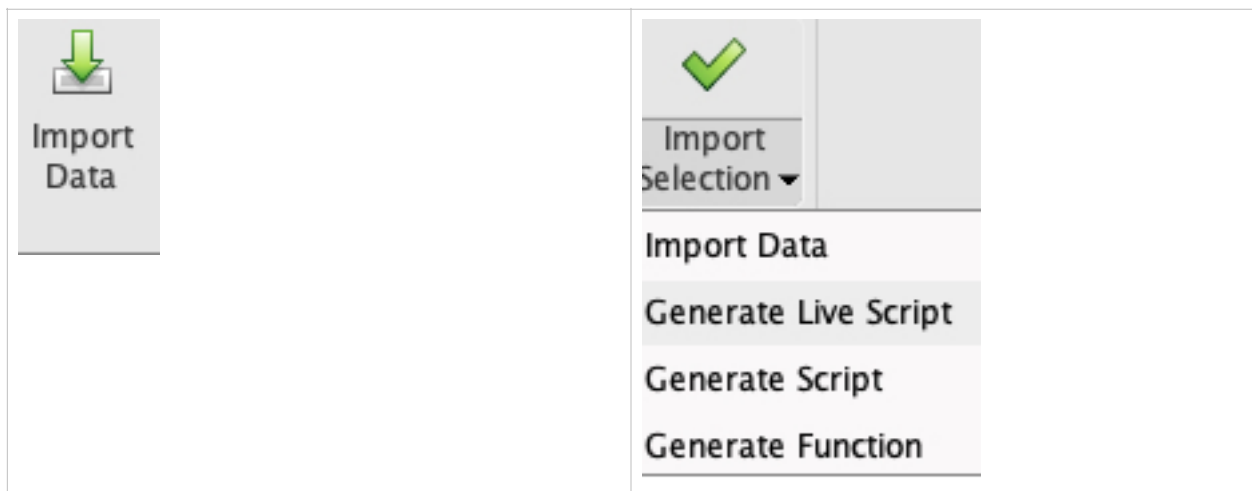

Figure 1. Import Functions in Matlab.
- a) Use the Matlab **Import Data** functions (see Figure 1) to read the **Car_data** file on the Syllabus webpage (week 1). I suggest you import the data using the Output Table format shown in Figure 2.
- b) Create an automatic script to import the data using Matlab's Generate script function (see Figure 1 right panel)